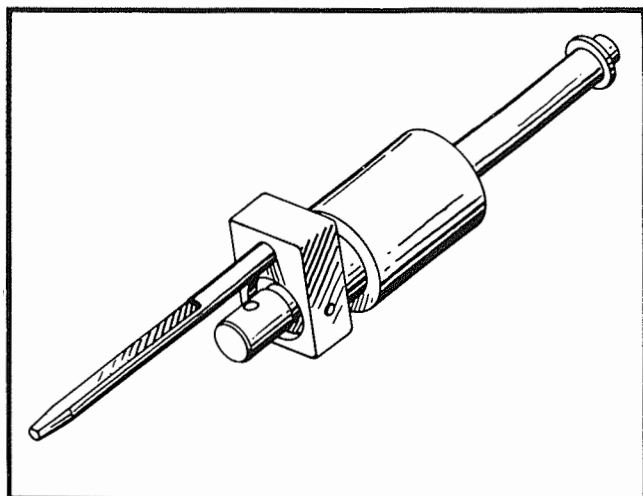

Figure 7-33. Supercharger Clutch Oil Control Valve Sleeve Installing Tool
a. Place the clutch control valve sleeve over the plug of installing tool 807319 (figure 7-33) so the pin in the tool is located in the slot on the end of the sleeve.